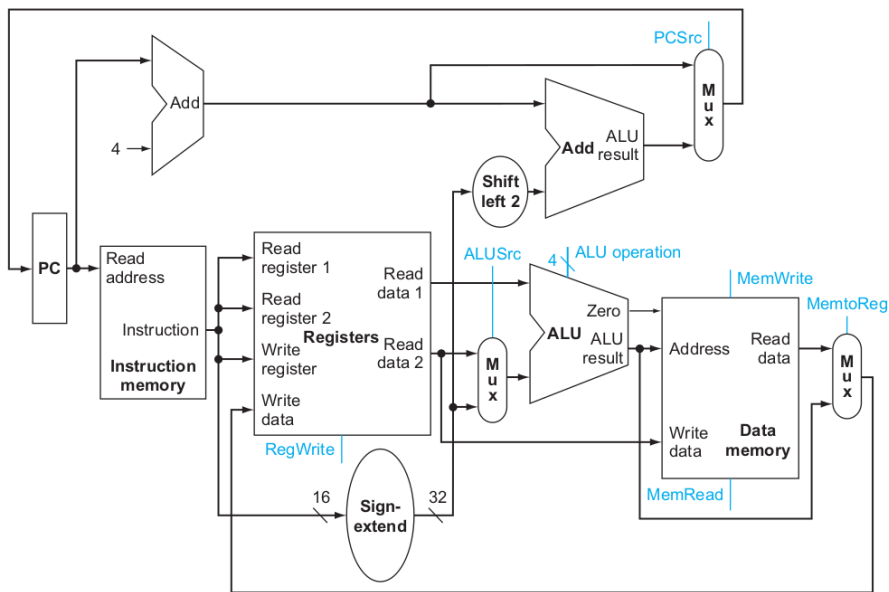

Figure 3: The simple datapath for the core MIPS architecture combines the elements required by different instruction classes.
2. Consider a datapath similar to the one in Figure 3, but for a processor that only has one type of instruction: unconditional PC-relative branch. What would the cycle time be for this datapath?